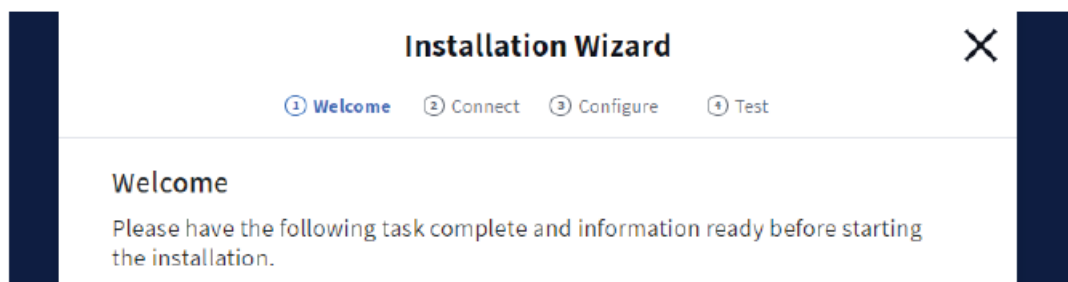

Fig. 3
5. At the Base Station LOG IN to the system, go to SYSTEM, then the ADVANCED tab and select "Installation" from the drop-down menu. Tap the "Start Installation Wizard" button. This opens the Installation Wizard as shown in Fig. 3.